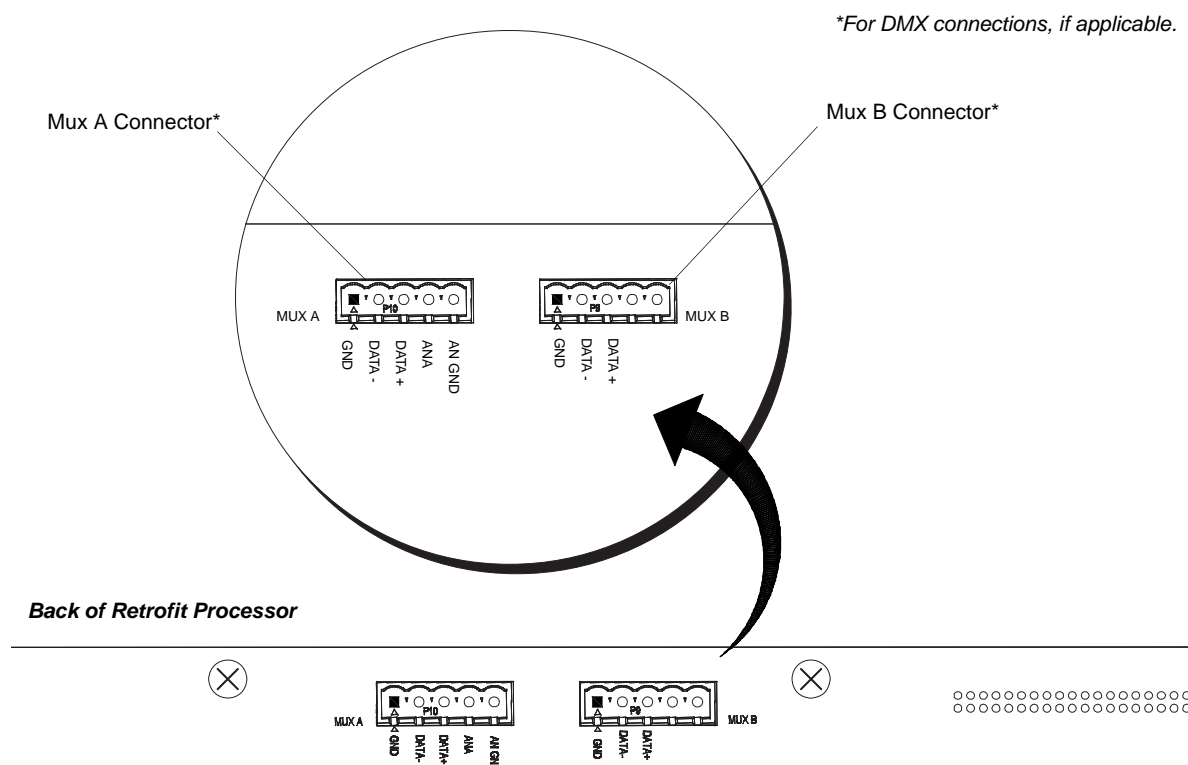

Figure 5: Retrofit Processor - DMX Connections (if applicable)
Step 8. If applicable...if a DMX input cable was connected to original interconnection board (in upper left side of CD80/CD80AE dimming rack), move this cable to rear of retrofit kit processor housing. As illustrated in **Figure 5**, connect DMX input cable to either Mux A or Mux B five pin connector.